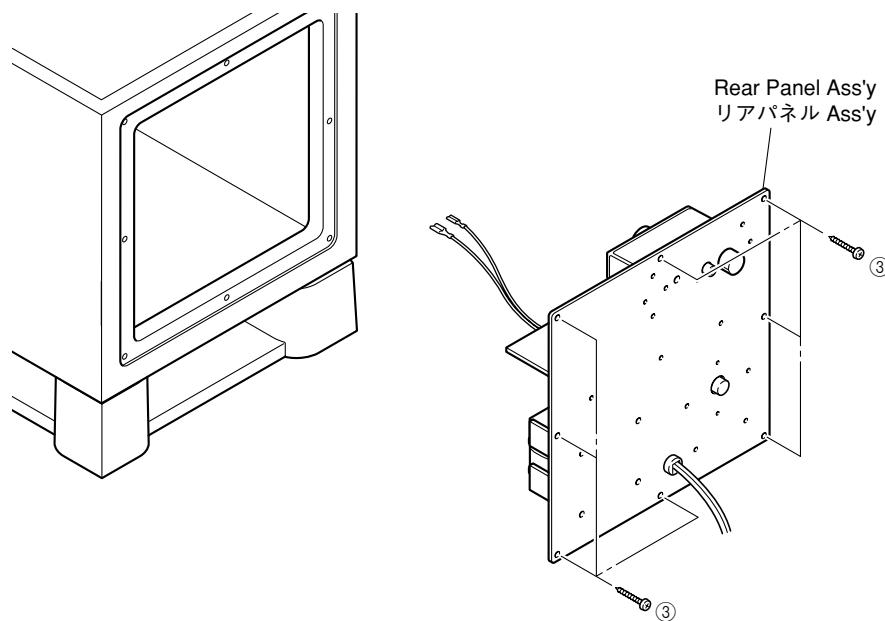

Fig. 2
- Remove 8 screws (③). (Fig. 2)
* Screws (③) are identified with arrow marks (➡).
- Pull out the rear panel ass'y. (Fig. 2)
- ③のネジ8本を外します。(Fig. 2)
- リアパネルAss'yを引き出します。(Fig. 2)